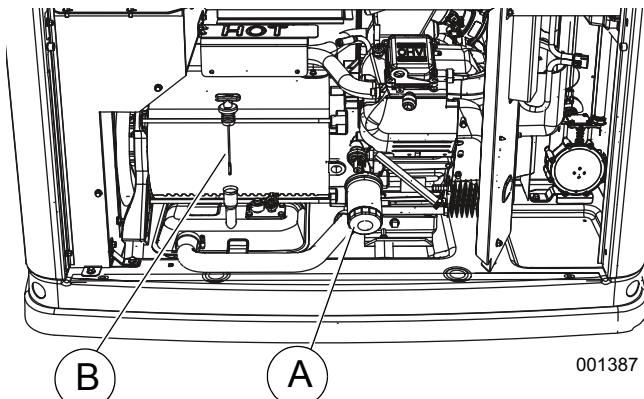
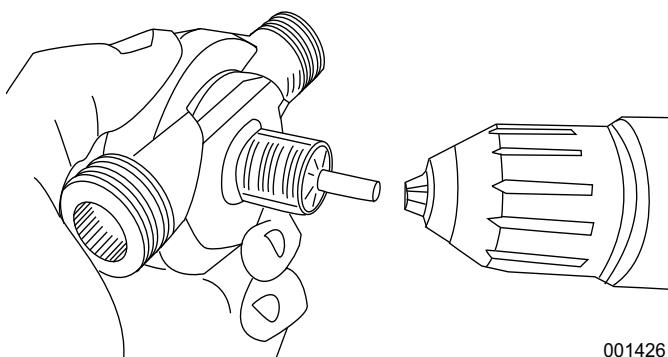

Figure 4-6. Oil Filter and Dipstick
Figure 4-7. Attaching Drill Pump
4. See **Figure 4-6**. Remove the used oil filter (A) by turning it counterclockwise. A towel or small container may be used to catch any residual oil when removing the filter.
5. Remove the oil dipstick (B) from the tank.
7. See **Figure 4-7**. Attach the drill to the drive shaft of the Drill Pump.